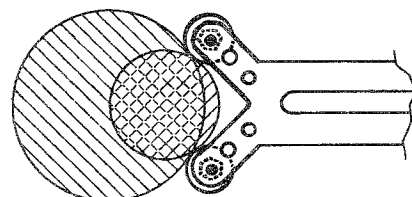
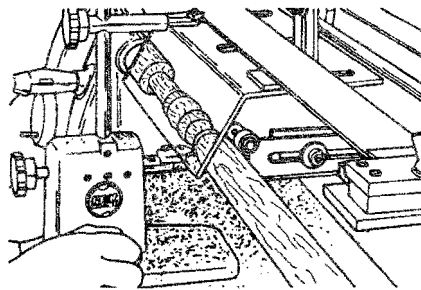

Fig. 9
Fig. 10
4. Adjust the bearings to fit the diameter of the spindle stock. See Fig. 9 (above) for which holes to use for the size spindle. Apply light pressure against the stock, then use the 5/16" Allen wrench to tighten the cap screw (10) attaching the Y-support to the bracket (8).
5. Test the setting of the bearings by plugging in the Mark V (with the speed dial still set at "Slow,") and quickly turn the Mark V on, then off. Check the spindle. If the corners of the bearings are marking the stock, loosen the Y-support's cap screw (10) and re-adjust the bearings against spindle. Repeat this step to re-check, until the bearings do not mark the spindle. However, a slight polishing of the stock will happen where the bearings roll against it. This is normal. The polished surface will be removed during sanding.
7. Perform normal operations with the Lathe Duplicator and Steady Rest, as demonstrated in Fig. 10. Shape the profile of the spindle. When turning long spindles, keep the Steady Rest at its original position and reposition the Lathe Duplicator table and the tool rest, as needed. There are exceptions to this guideline, especially for long, very small diameter stock—then it may be necessary to reposition the Steady Rest bearings along the spindle as it is turned.